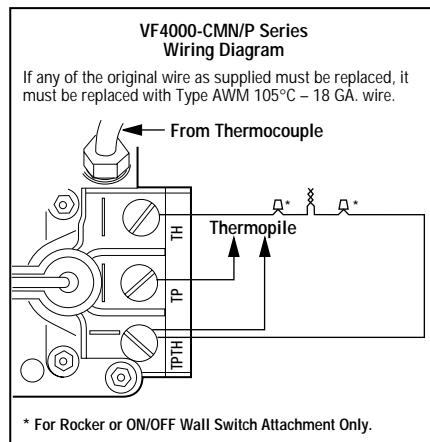
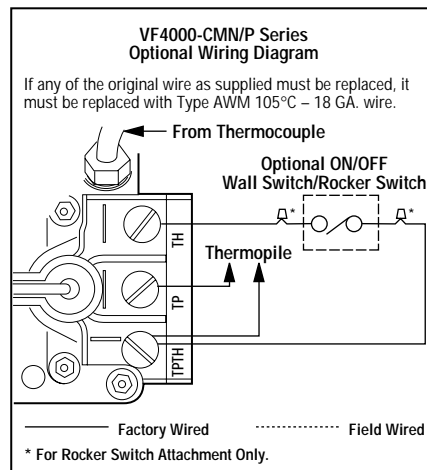

Figure 10
Figure 11
Step 5. Installing the Optional Remote Wall Switch (VF4000-CMN/P models only) – The millivolt system comes from the factory wired as shown in Figure 10. Select a convenient location for the remote wall switch and connect the wiring to the appliance (Figure 11).
An optional wall switch kit can be installed along with the millivolt controlled appliances. The kit consists of a standard UL wall switch with cover plate. This kit provides for remote (wall) operation of the appliance. Replace the wall switch and cover plate of this kit with the components of the FWSK and you can have true remote control of your vent-free appliance, turning it on and off from your favorite easy chair. The wall switch kit should be installed along with the appliance. Refer to *Figure 11* and Step 5 for detailed installation instructions.